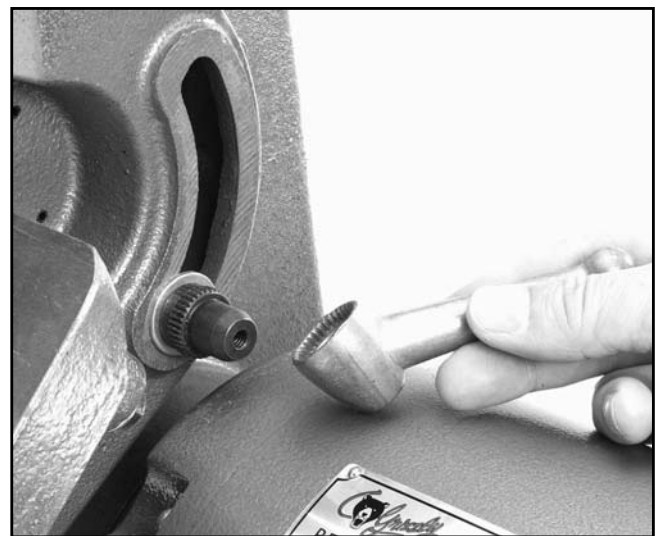

Figure 5. Installing lock handle.
3. Line up the belt table trunnion with the slot in the belt assembly bracket. Reinstall the threaded stud, then install the flat washer, toothed nut, lock handle, lock washer and bolt, as shown in **Figure 5**. Make sure the handle is installed so the table can be loosened and tightened without interfering with other components. The belt table's tight fit is deliberate. Placing the table in position is easier if you swing the belt table so the 45° positive stop bolt is located over the gap in the motor casting cover.